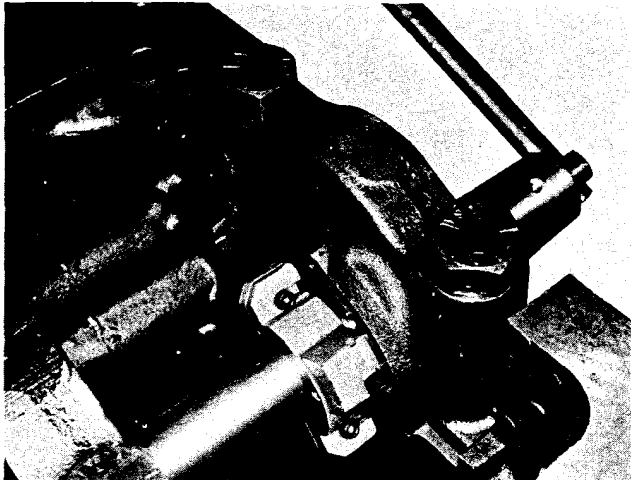

Fig. 1-23, (N101120). Cutter in position
6. Install cutter holder and adjust cutting tool to cut the full thrust bearing surface. Fig. 1-23. The tool should be installed so it cuts when shaft is turned in clockwise rotation.